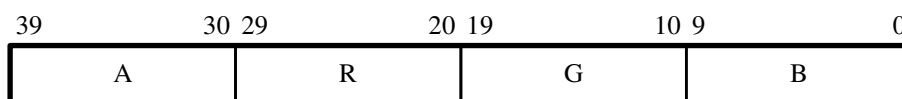

Figure 14. 40-bit RGBA Color Space.
- 40-bit RGBA — This format contains alpha values as well as RGB and uses 10 bits of each color as shown in Figure 14. This mode is defined as 10 bits per color and four color planes.